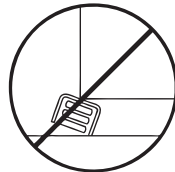

Figure 2
5. Ensure that the load is properly seated on each skate, Figures 2 and 4.